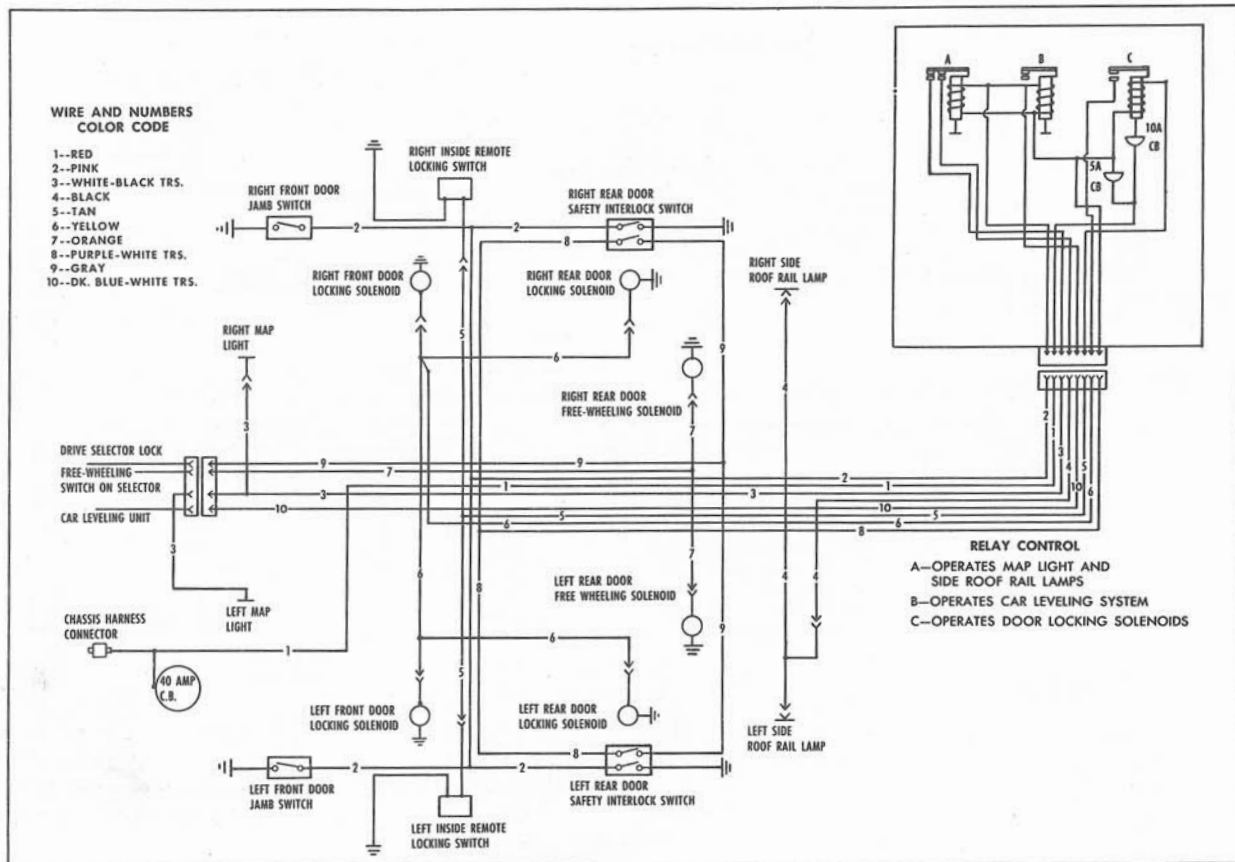
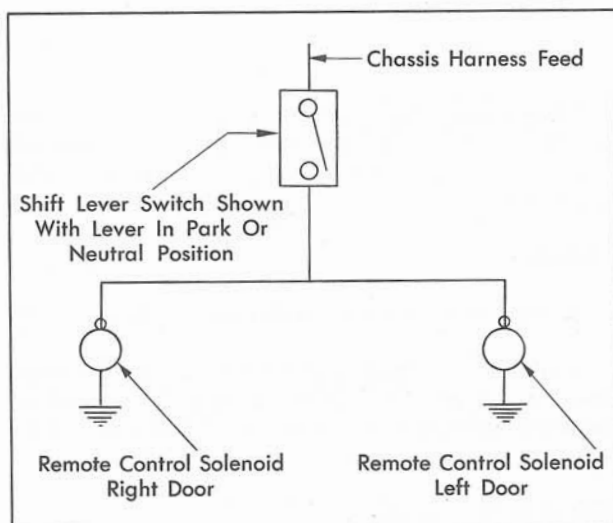

Fig. 17-77 Door Lock Relay Box and Related Circuits
Fig. 17-80 Remote Control Free-Wheeling Circuit Diagram
The electrical circuits which are controlled by the door lock relay box, located beneath the right side of the front seat cushion, are shown in Fig. 17-77.
3. DOOR INSIDE REMOTE LOCKING CIRCUIT - The circuit is completed by Relay "C", Fig. 17-77, which is energized when the plunger on either front door inside locking switch lever is depressed. The relay provides current to a locking solenoid in each of the four door locks. The purpose of this feature is to provide simultaneous locking of all four doors by actuating one switch. To unlock the doors, it is necessary to unlock each door individually by actuating the inside locking levers manually.
4. SIDE ROOF RAIL LAMP AND COURTESY LIGHT CIRCUIT - The circuit is completed by Relay "A", Fig. 17-77, which is energized when one of the door jamb switches is actuated by opening the door.
5. CAR LEVELING SYSTEM CIRCUIT - The circuit is completed by Relay "B", Fig. 17-77, which is energized when one of the door jamb switches is actuated by opening the door. For information concerning the Car Leveling System, refer to Section 4.
The circuit for the locking system is shown in the master diagram, Fig. 17-77, and is also shown
of either front door is actuated, the field circuit of Relay "C" is grounded, thereby closing the contacts of Relay "C", Fig. 17-77, and providing current to the lock solenoids in all four doors. When the door lock solenoids are energized, the lock levers are moved to the locked position. To unlock the doors, each locking lever has to be actuated separately.
The circuit for the rear door remote control free-wheeling system is shown in the master diagram, Fig. 17-77, and is also shown separately in Fig. 17-80. The system operates electrically as follows:
as shown in Fig. 17-77. The power "feed" for the relay box is routed from the circuit breaker on the left shroud.